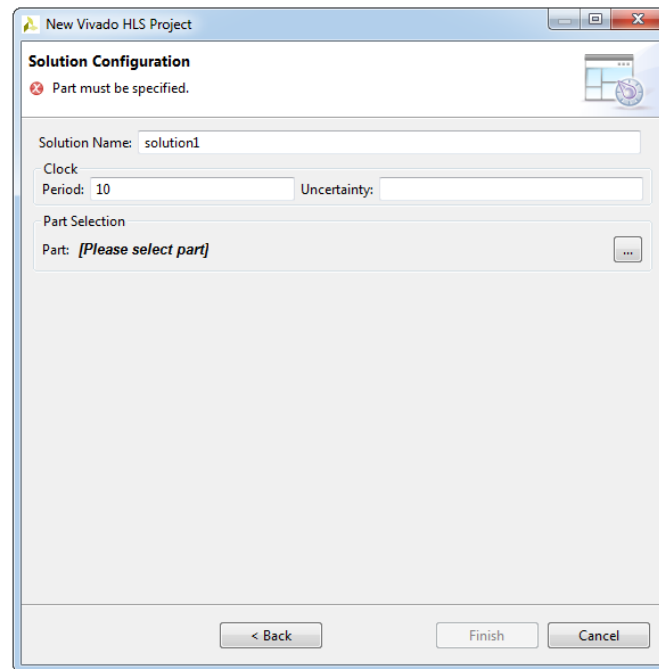

Figure 2.9: Solution Configuration dialog box
The **Solution Configuration** window (shown on the Figure 2.9) specifies the technical specifications of the first solution.
7. In the **Solution Configuration** dialog box accept the default solution name (**solution1**), clock period (**10 ns**), and blank clock uncertainty (defaults to 12.5% of the clock period, when it is left blank then it is undefined), see Figure 2.9.